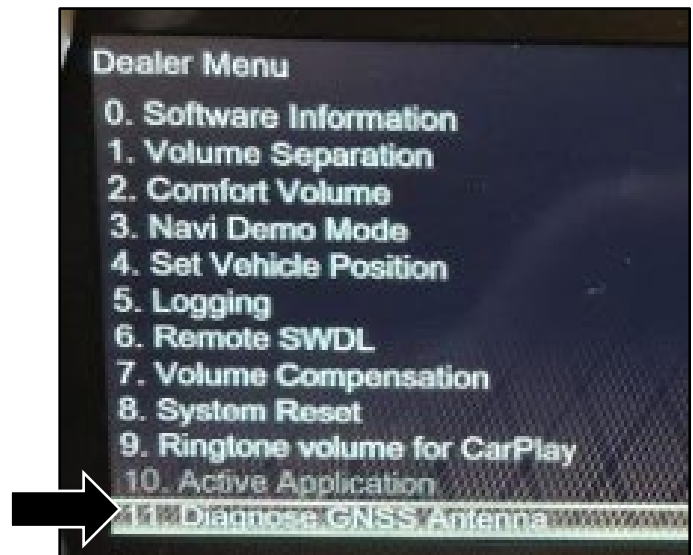

Figure 2
3. In the “Dealer Menu” scroll down and select “Diagnose GNSS Antenna” (refer to Figure 2).